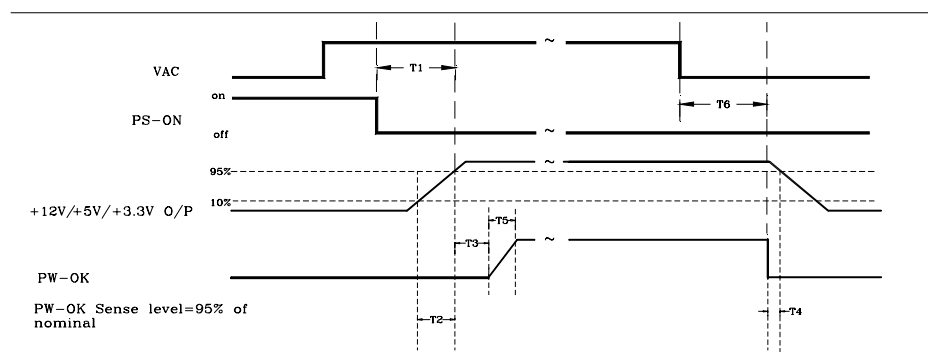

Figure 2. PS-OK Timing Sequence
Figure 2 is a reference for signal timing for main power connector signals and rails.
4.2 Hold up time (T6 of figure 2.)